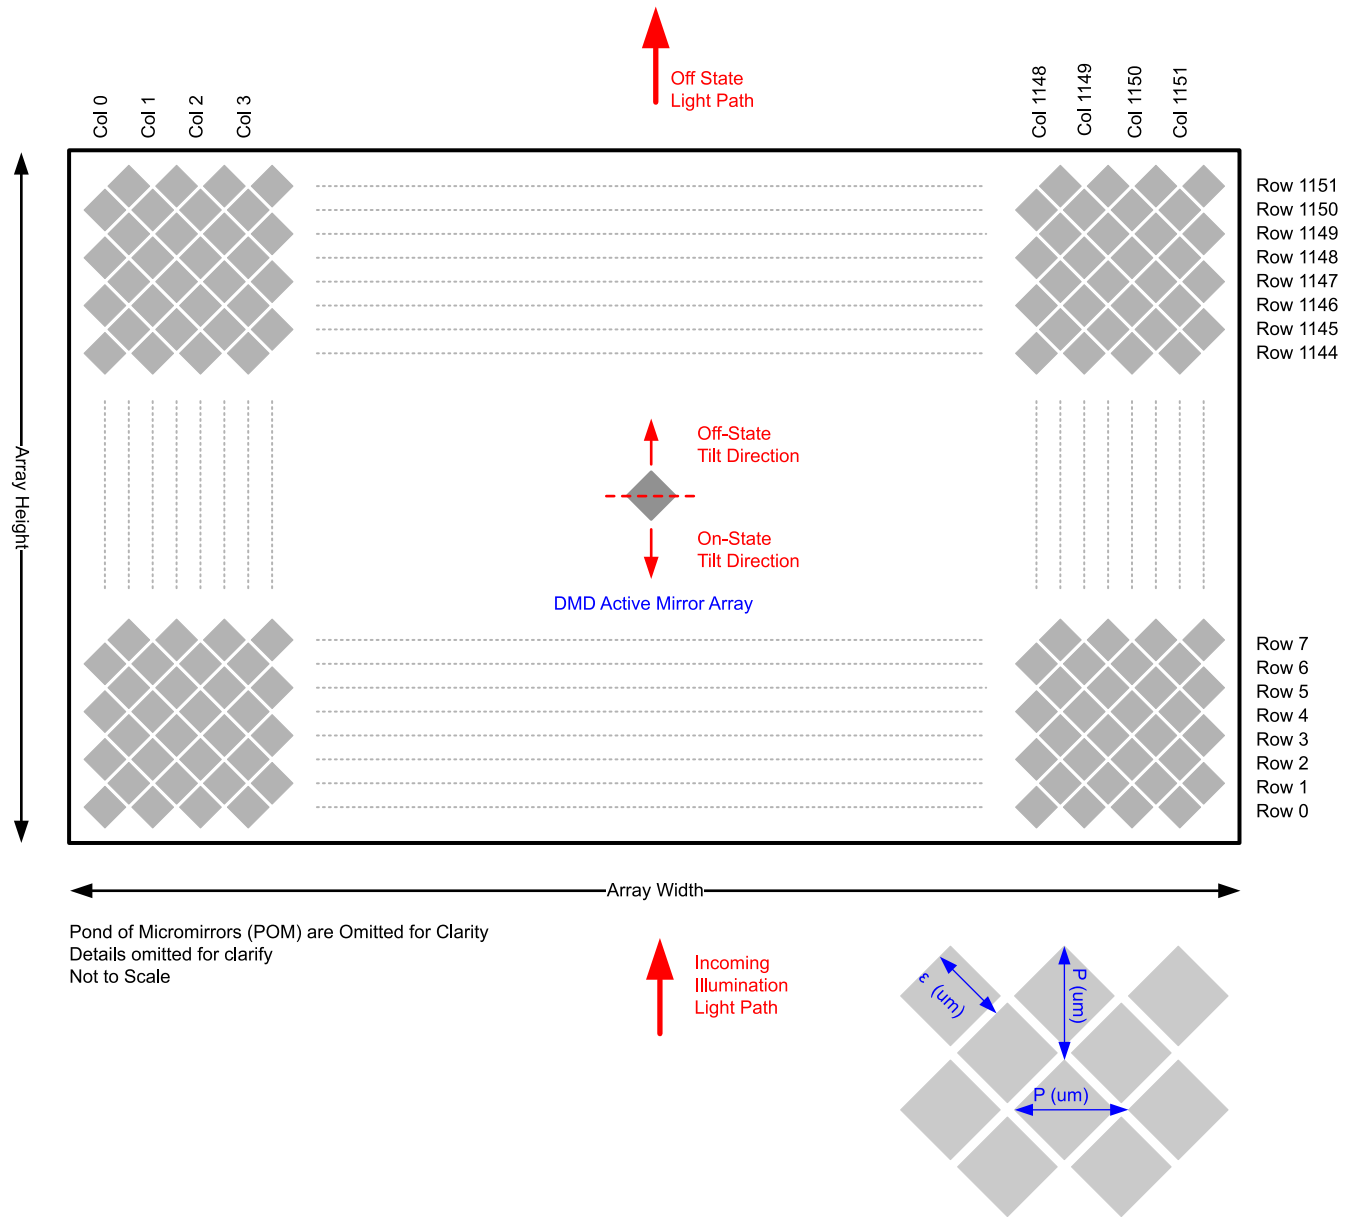

图 6-13. Micromirror Array Physical Characteristics
(1) See 图 6-13
(2) The structure and qualities of the border around the active array includes a band of partially functional micromirrors called the POM. These micromirrors are structurally and/or electrically prevented from tilting toward the bright or ON state, but still require an electrical bias to tilt toward OFF.
The DLP5533A-Q1 Automotive DMD consists of 1,327,104 highly reflective, digitally switchable, micrometer-sized mirrors organized in a two-dimensional array. As shown in Figure 6-13, the micromirror array consists of 1152 micromirror columns × 1152 micromirror rows in a diamond pixel configuration with a 2:1 aspect ratio.